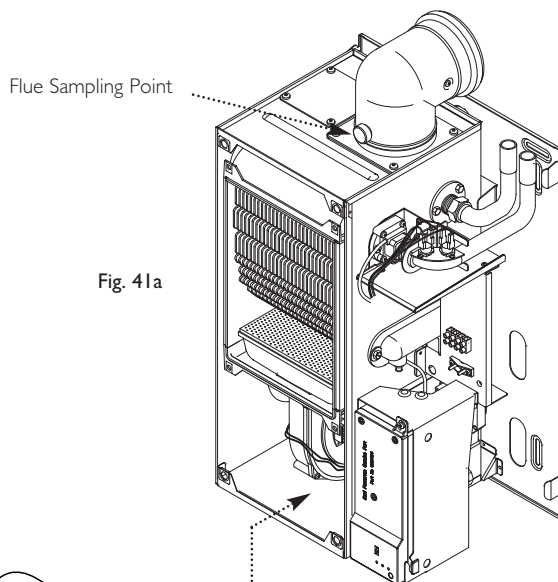

Fig. 41a
11. Check CO/CO2 ratio and CO2 level at the flue sampling point (Fig. 41a) is as quoted in Section 4.0 Technical Data.